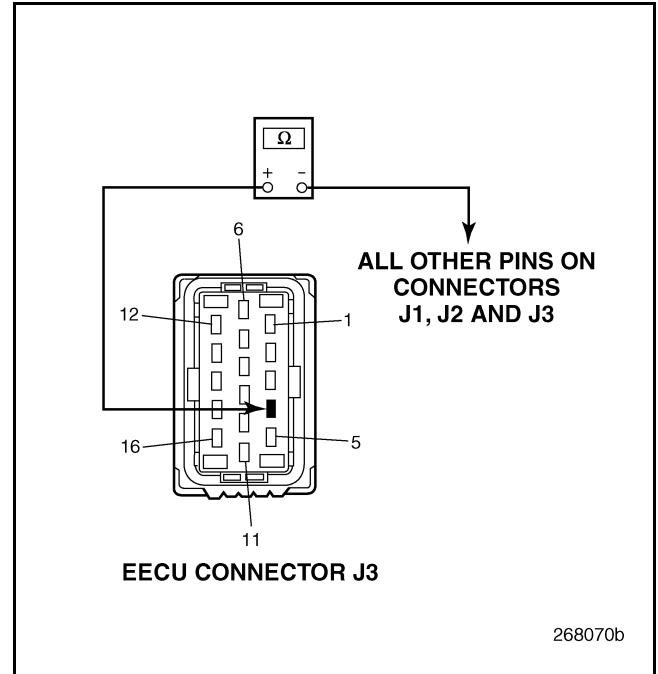

Figure 782
4. Check for continuity between EECU harness connector J3 pin 4 and all other pins on EECU connectors J1, J2 and J3 (see Figure 782).